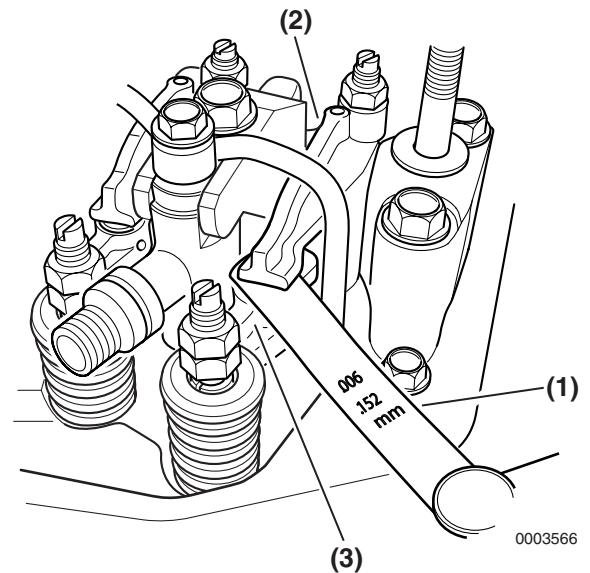

Figure 6-82
8. To adjust the actual valve clearance between the rocker arm and the valve bridge, insert a feeler gauge (**Figure 6-82, (1)**) of the correct thickness (See *Adjustment Specifications on page 6-6*) between the rocker arm (**Figure 6-82, (2)**) and valve bridge (**Figure 6-82, (3)**). Record the results and use this value as an indication of wear.